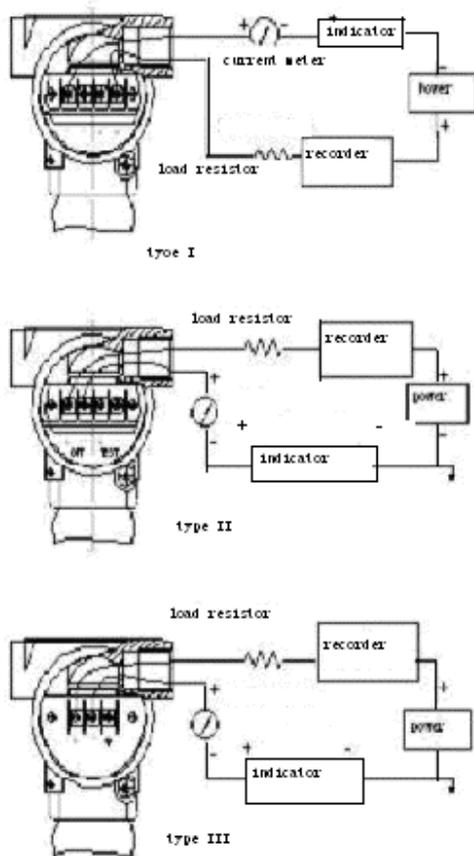

Fig. 7-1
- The signal terminals of the transmitter are placed in a cabin. Take off the back cover while wiring. There are two terminals of the indicator (refer to fig.7-1).Both the current of the testing terminal, and the current of the signal terminal are 4~20mADC .These may be linked to the indicator for testing.